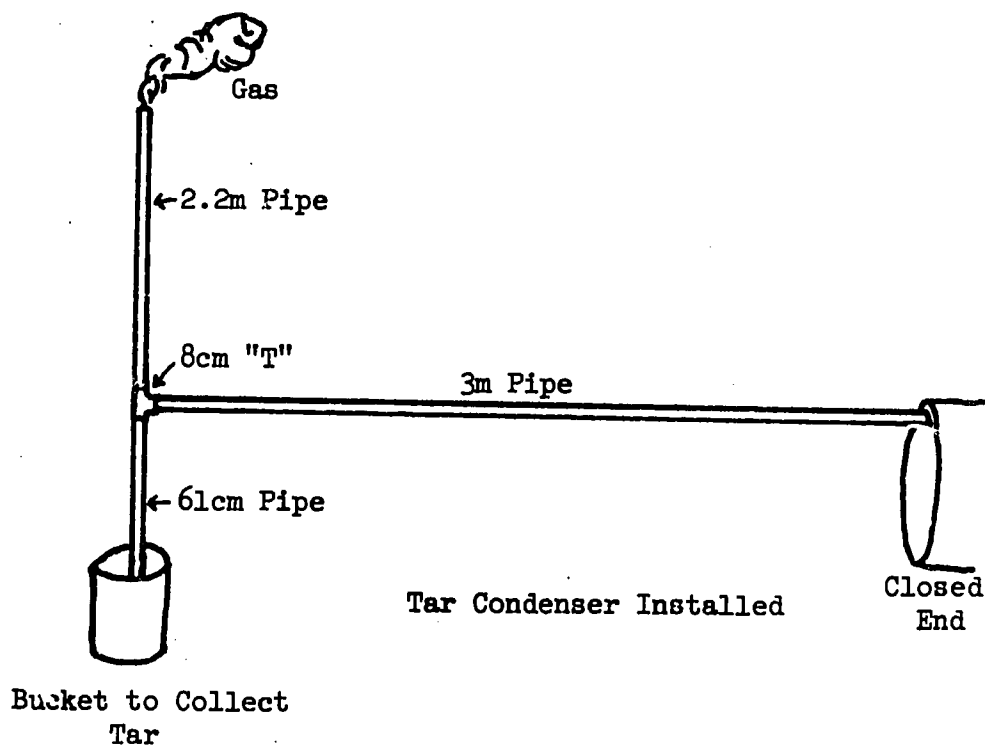

Figure 7
- Fit together the 8cm (3") galvanized iron pipe as shown in Figure 7. The 3m (9-3/4') piece connects with the closed end of the retort. The 2.2m (6-1/2') piece goes upward as a chimney. The 61cm (24") piece goes downward as a tap for the tar. These three pieces are joined together by one 8cm (3") galvanized iron pipe "T".